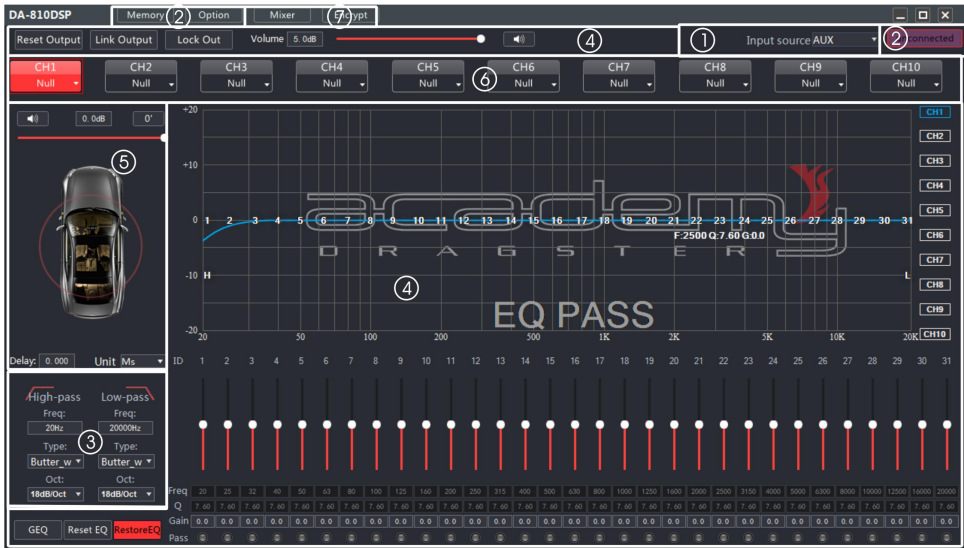
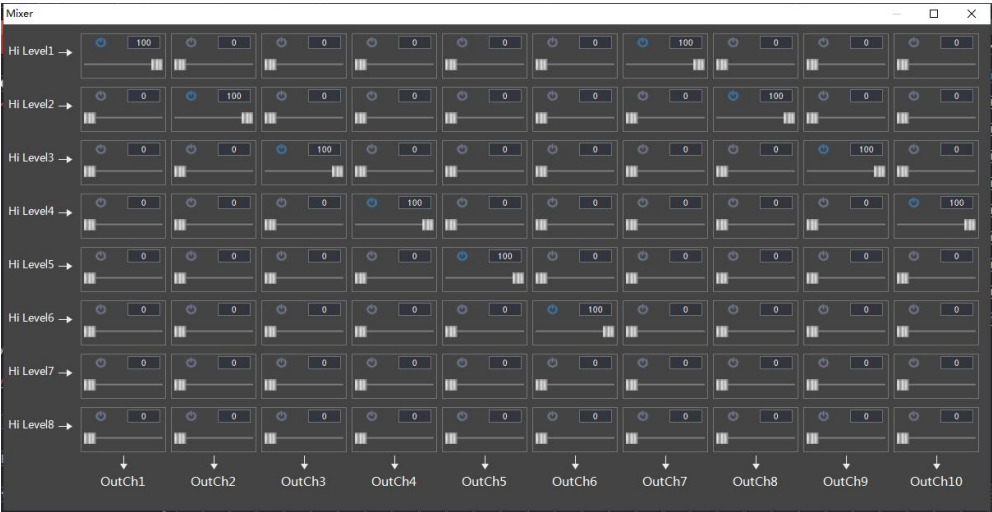

Figure 3.2.2
figure 3.3.14
1. as shown in figure 3.2.2, "1", input signal selection: high level,Bluetooth, AUX, optical and USB.
2. as shown in figure 3.2.2 "2", shows the main menu and connection status.
3. as shown in figure 3.2.2 "3", the high-pass and low-pass Settings of the divider.
4. as shown in figure 3.2.2, "4", area is output channel EQ setting.
5. as shown in figure 3.2.2, "5", shows the setting of delay space.
6. as shown in figure 3.2.2, "6", output channel configuration and common parameter adjustment area.
7. as shown in figure 3.2.2, "7", shows the setting of Mixer space.
In the online mode, in Figure 3.2.2 "1", click the appropriate input source, you can switch the audio input signal.
"6" area, click on the corresponding channel number in Figure 3.2.2 (CH1, CH2 CH10), you can switch to the corresponding channel to adjust relevant parameters when changing the channel editing, where there are only 3.2. 2 "4" zone (crossover and equalization parameters) will vary depending on the channel and change the parameter values.
Mixer settings: click "mixer" in the "7" area in Figure 3.2.2, then you can switch to (Figure 3.3.14) the relevant parameter settings for the corresponding adjustment.